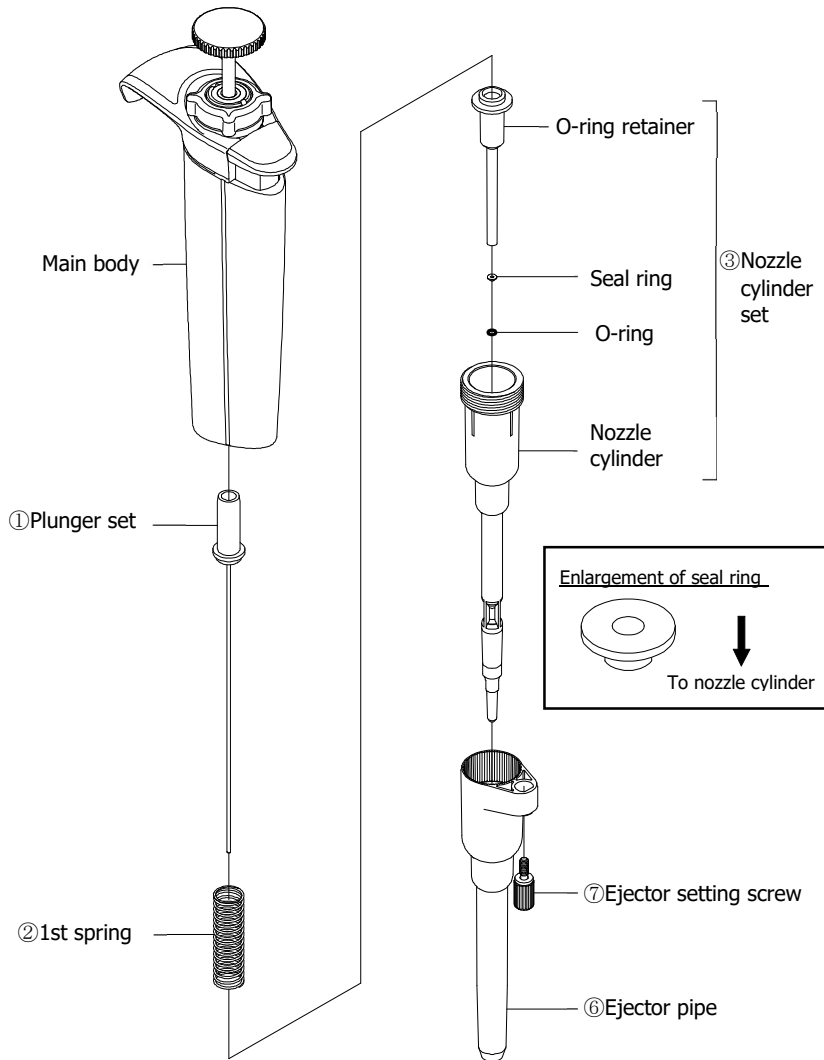
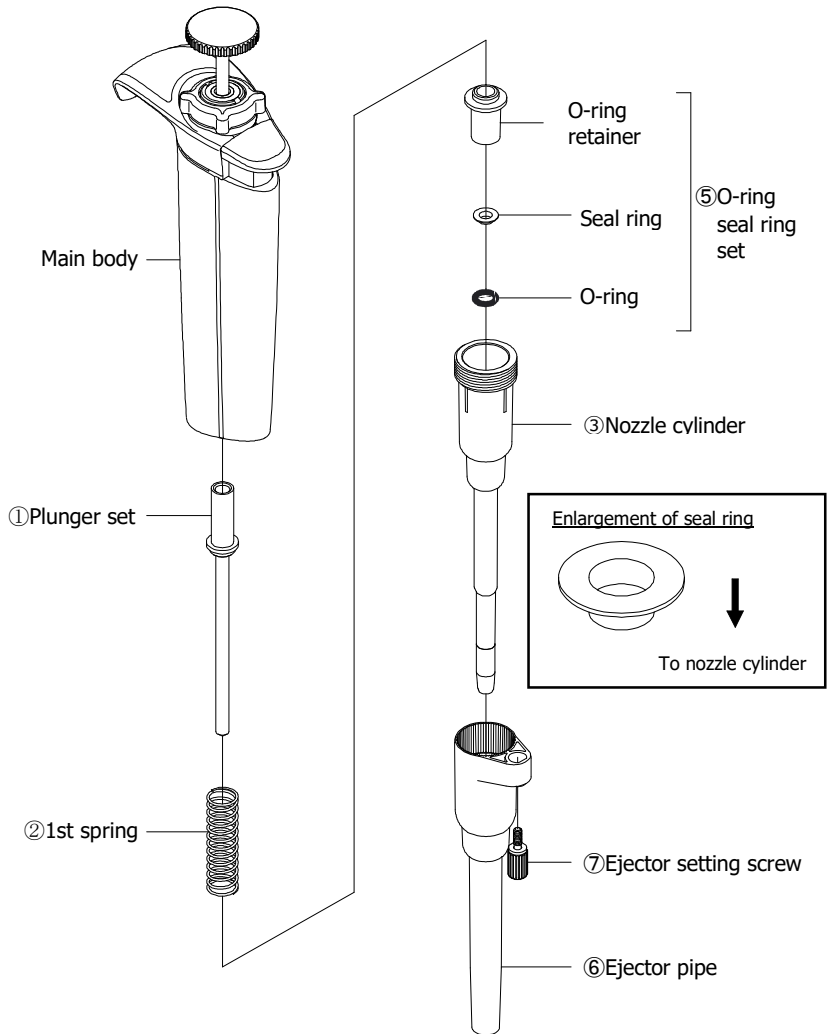

Fig. G1
Fig.G2
- 3) Disassemble the internal parts as shown in; (Fig. G1) for Models: 2 μ L, 10 μ L and 20 μ L, (Fig. G2) for Models: 100 μ L and 200 μ L, and (Fig. G3) for the Model: 1000 μ L.
- For models: 2 μ L, 10 μ L, 20 μ L (Fig. G1), 100 μ L and 200 μ L (Fig. G2), 1000 μ L (Fig. G3) First, attach the 1st spring onto the plunger, set the O-ring retainer, seal ring and O-ring in order and correctly intact. Then, insert the assembly into the nozzle cylinder and screw it clockwise into the upper body.
- Models: 2 μ L, 10 μ L, 20 μ L (Fig G1), 100 μ L and 200 μ L (Fig. G2), 1000 μ L (Fig. G3)
Circled Numbers in (Fig. G1) corresponds to Parts Numbers in the replacement parts list.
Circled Numbers in (Fig. G2) corresponds to Parts Numbers in the replacement parts list.